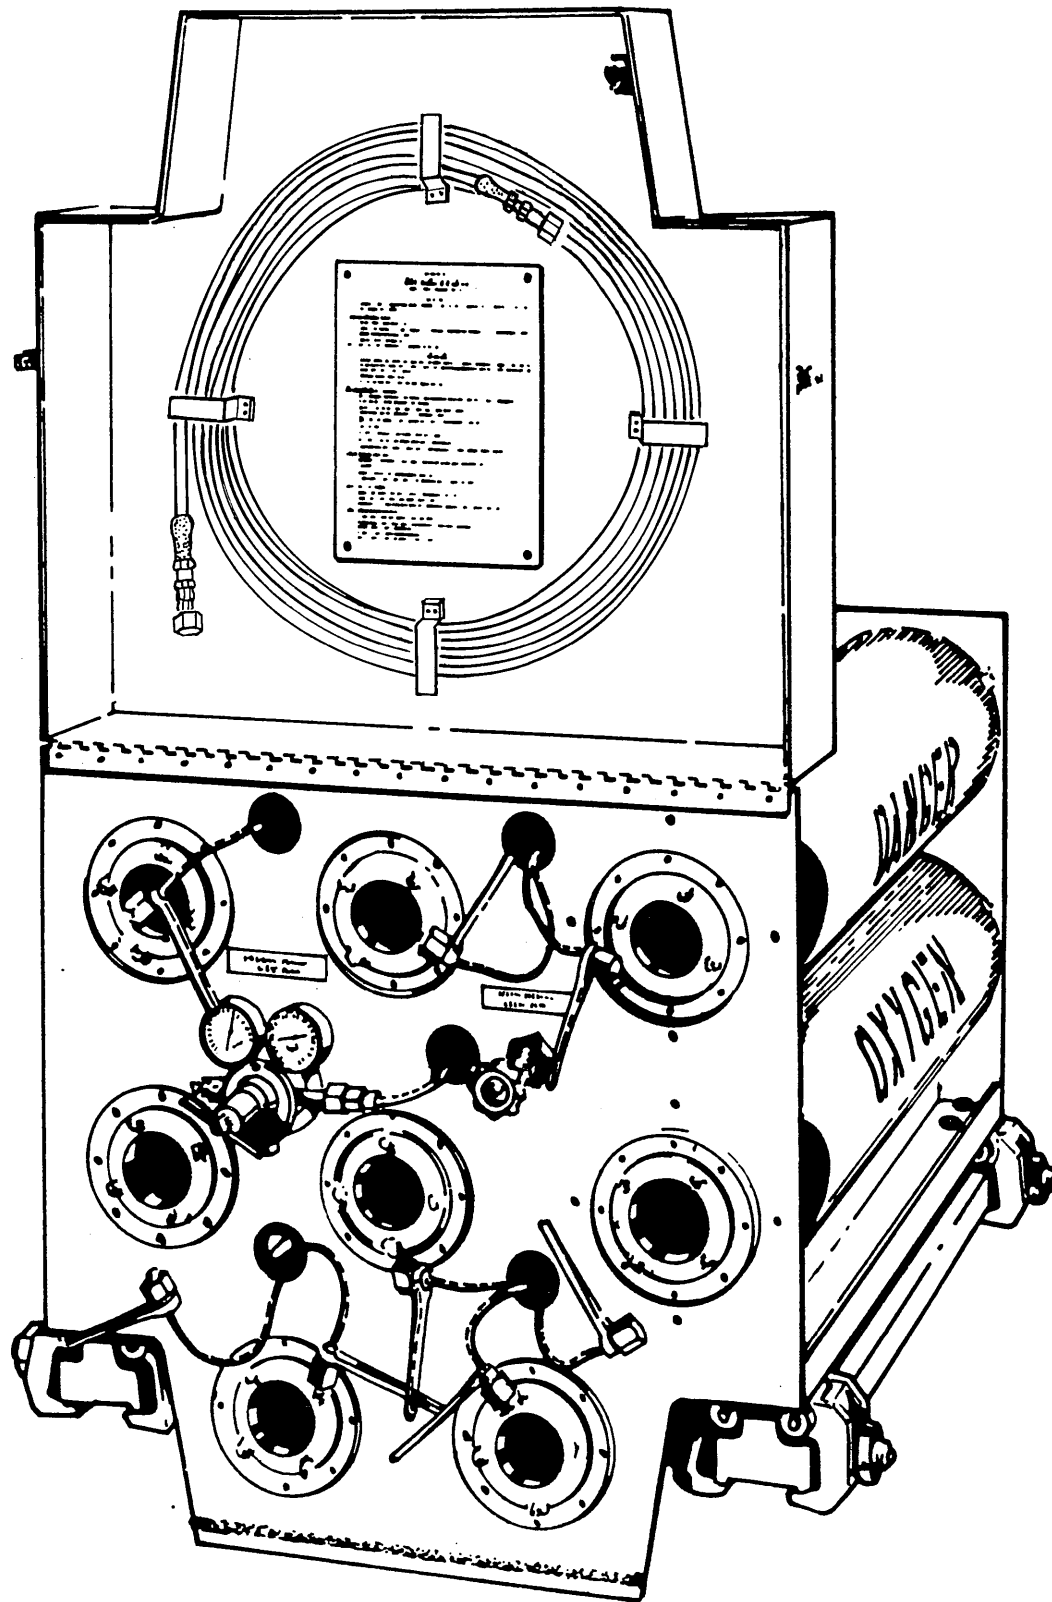

Figure 9-24. Oxygen Servicing Unit
(6) Maintenance. Consult the applicable maintenance manual for scheduled and preventive maintenance requirements.
q. Oxygen Servicing Unit. The oxygen servicing unit, shown in figure 9-24, will provide oxygen at a maximum pressure of 3,000 psig. Each of the eight bottles will hold 224 cf of oxygen. The flow capacity of the regulator is 1,500 scfh at 2,300 psig delivered.
(1) Purpose. The oxygen servicing unit is designed to provide a means of carrying standard high-pressure oxygen bottles and of interconnecting them to provide regulated single output which can be adjusted for pressure. It is used to service aircraft and other equipment which requires pressurized oxygen.
(2) Principles of operation. The oxygen servicing unit consists of eight cylindrical tubes, each of which can house a standard high-pressure oxygen bottle lying on its side. Pigtailed and a manifold are used to interconnect the oxygen bottles to provide a single output. Each pigtail is connected to a check valve to prevent backflow. A manual control valve, connected to the manifold, is used to supply the oxygen directly from the oxygen bottles to the receiving equipment. An adjustable, dual-indicator regulator controls the oxygen output at the desired pressure. The oxygen supply is transferred through a 25 foot flexible output service hose.
(3) Safety practices and procedures. The following special precautions should be observed when using the oxygen servicing unit:
(4) Operating procedures. The following general procedures pertain to the operation of the oxygen servicing unit: